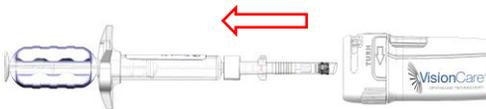

Figure 11
8. Carefully detach the loaded Injector (Figure 11) and confirm by visual observation that the NG SI IMT 3X implant does not protrude from the Injector Tip.